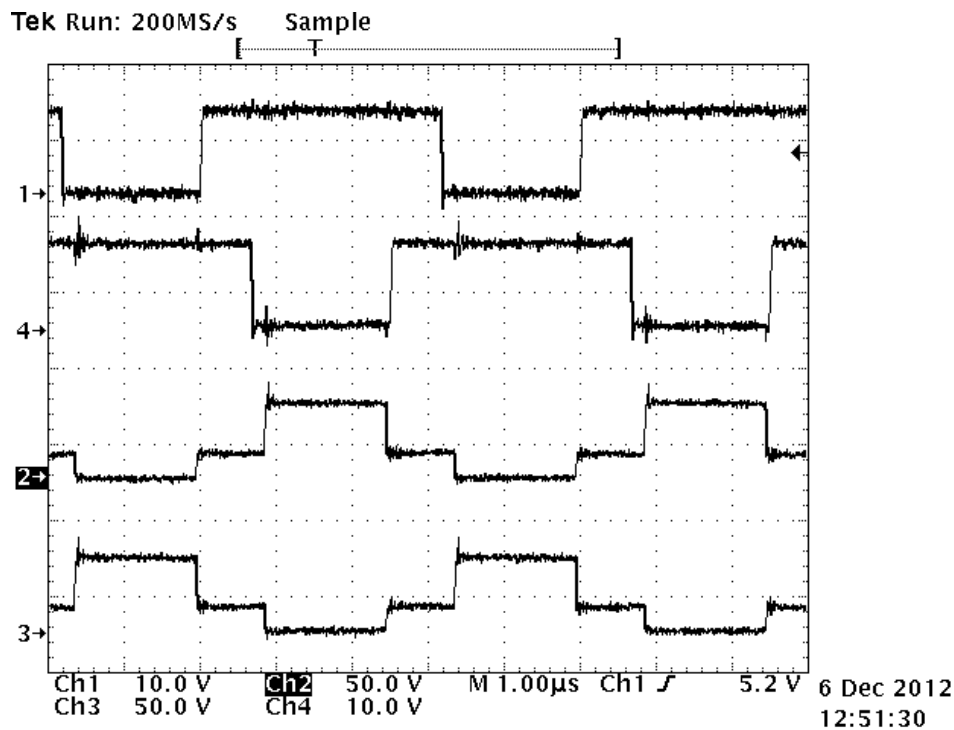

Figure 32. Normal Operation Switching Waveforms
- The converter is in normal operation to regulate the output voltage at 12 V nominally. As shown in Figure 32, Ch1 = TP13, Ch2 = TP25, Ch3 = TP23, and Ch4 = TP12, all referenced to the primary-side ground.